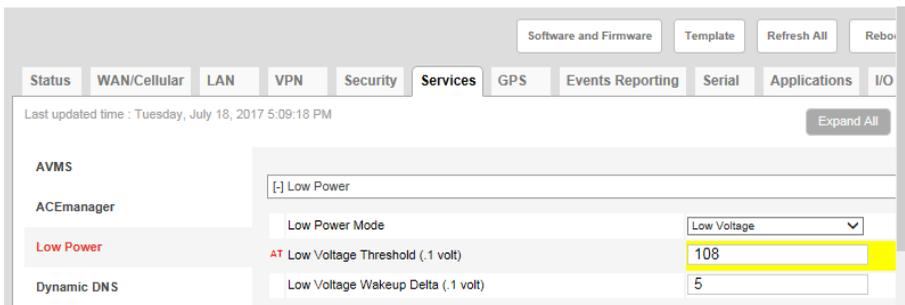

FIGURE C-22 Shutoff Voltage for LS300
a. LS300 requires the shutdown voltage to be entered in values of 1/10 volt, see FIGURE C-22